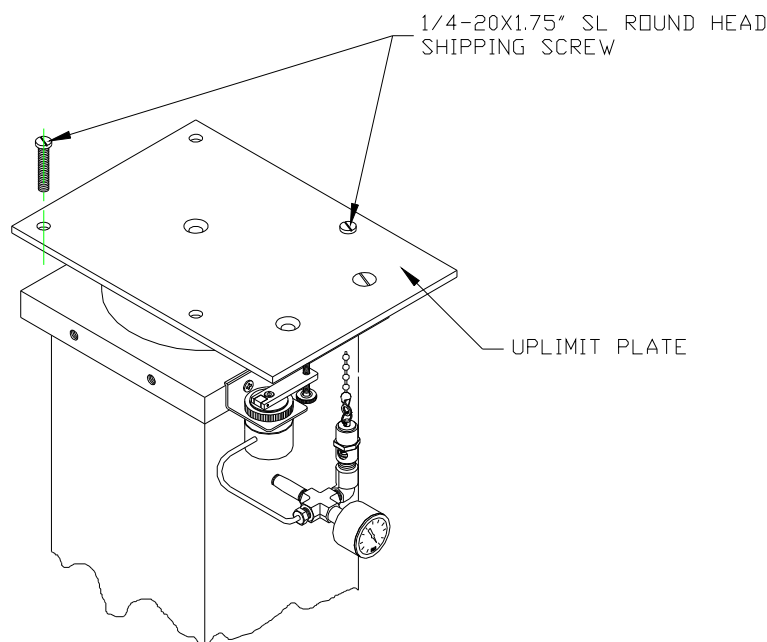

Fig. 2 Illustration of Shipping Screw Removal
1. A minimum of three (3) Active-Air isolators of sufficient load capacity are required for stable load support. If additional load capacity is required select a higher capacity 1206 isolator mount, or one or more Slave Isolators can be added to raise the supported load capacity to its desired level.
5. Refer to Fig. 2 remove and discard the two (2) 1/4-20 x 1.75" slotted round head screws that hold down each uplimit plate located at the stop of the Isolation mounts. These serve only to align the uplimit plate, and secure it for shipping.